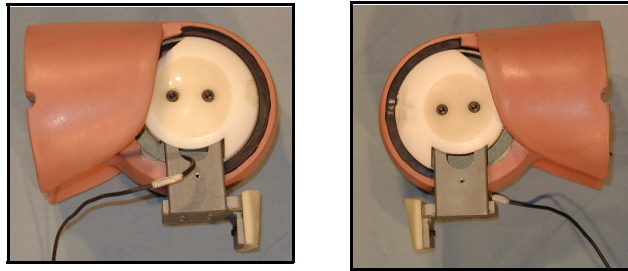

Figure 3.42 - Knee Covers
5. Position the corresponding knee cover over each side of the knee assembly and secure the covers with two #10-32 x 5/8 S.H.C.S. {3/16} on each side. The screws pass through the covers, through the holes in the knee clevis and into the ball bearing slider block, as shown in **Figure 3.42** for the outside and inside of the right knee assemblies.